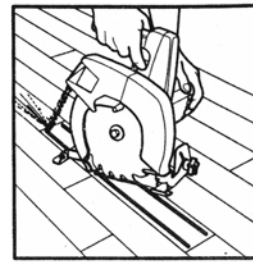

Figure 7-3
- C. Make a third cut across the center of the board at a 30 - 45-degree angle from first long cut to second long cut. Figure 7-3.